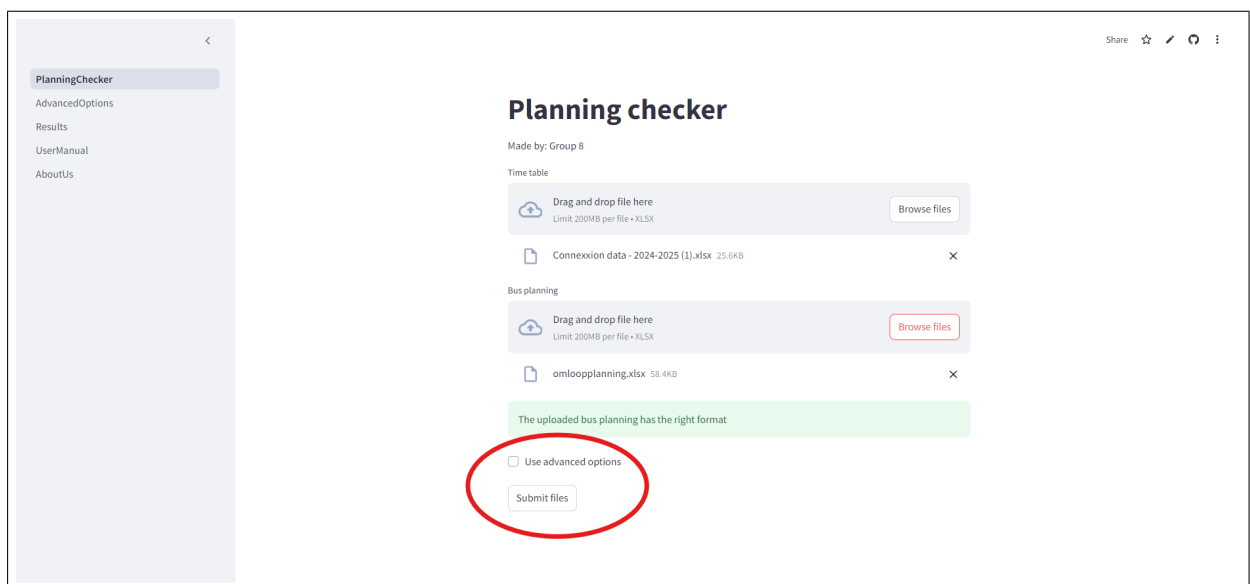

Figure 2: *The home screen with the advanced options button highlighted.*
1. Before clicking on 'Submit files', check the box 'Use advanced options' to alter the default settings* (see figure 2).